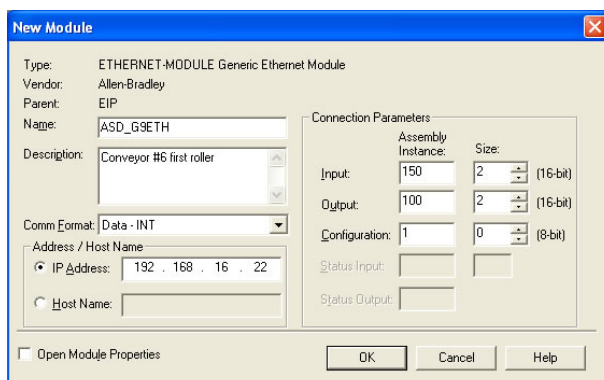

Figure 79: Interface Card Module Properties
- 4) The module properties dialog box will open (refer to Figure 79). Enter a Name and Description which will allow easy identification of the drive on the network (the tags created in RSLogix 5000 will be derived from this Name). Because all drive data is stored as 16-bit registers, change the "Comm Format" selection to "Data-INT". Enter the IP address of the targeted interface card.